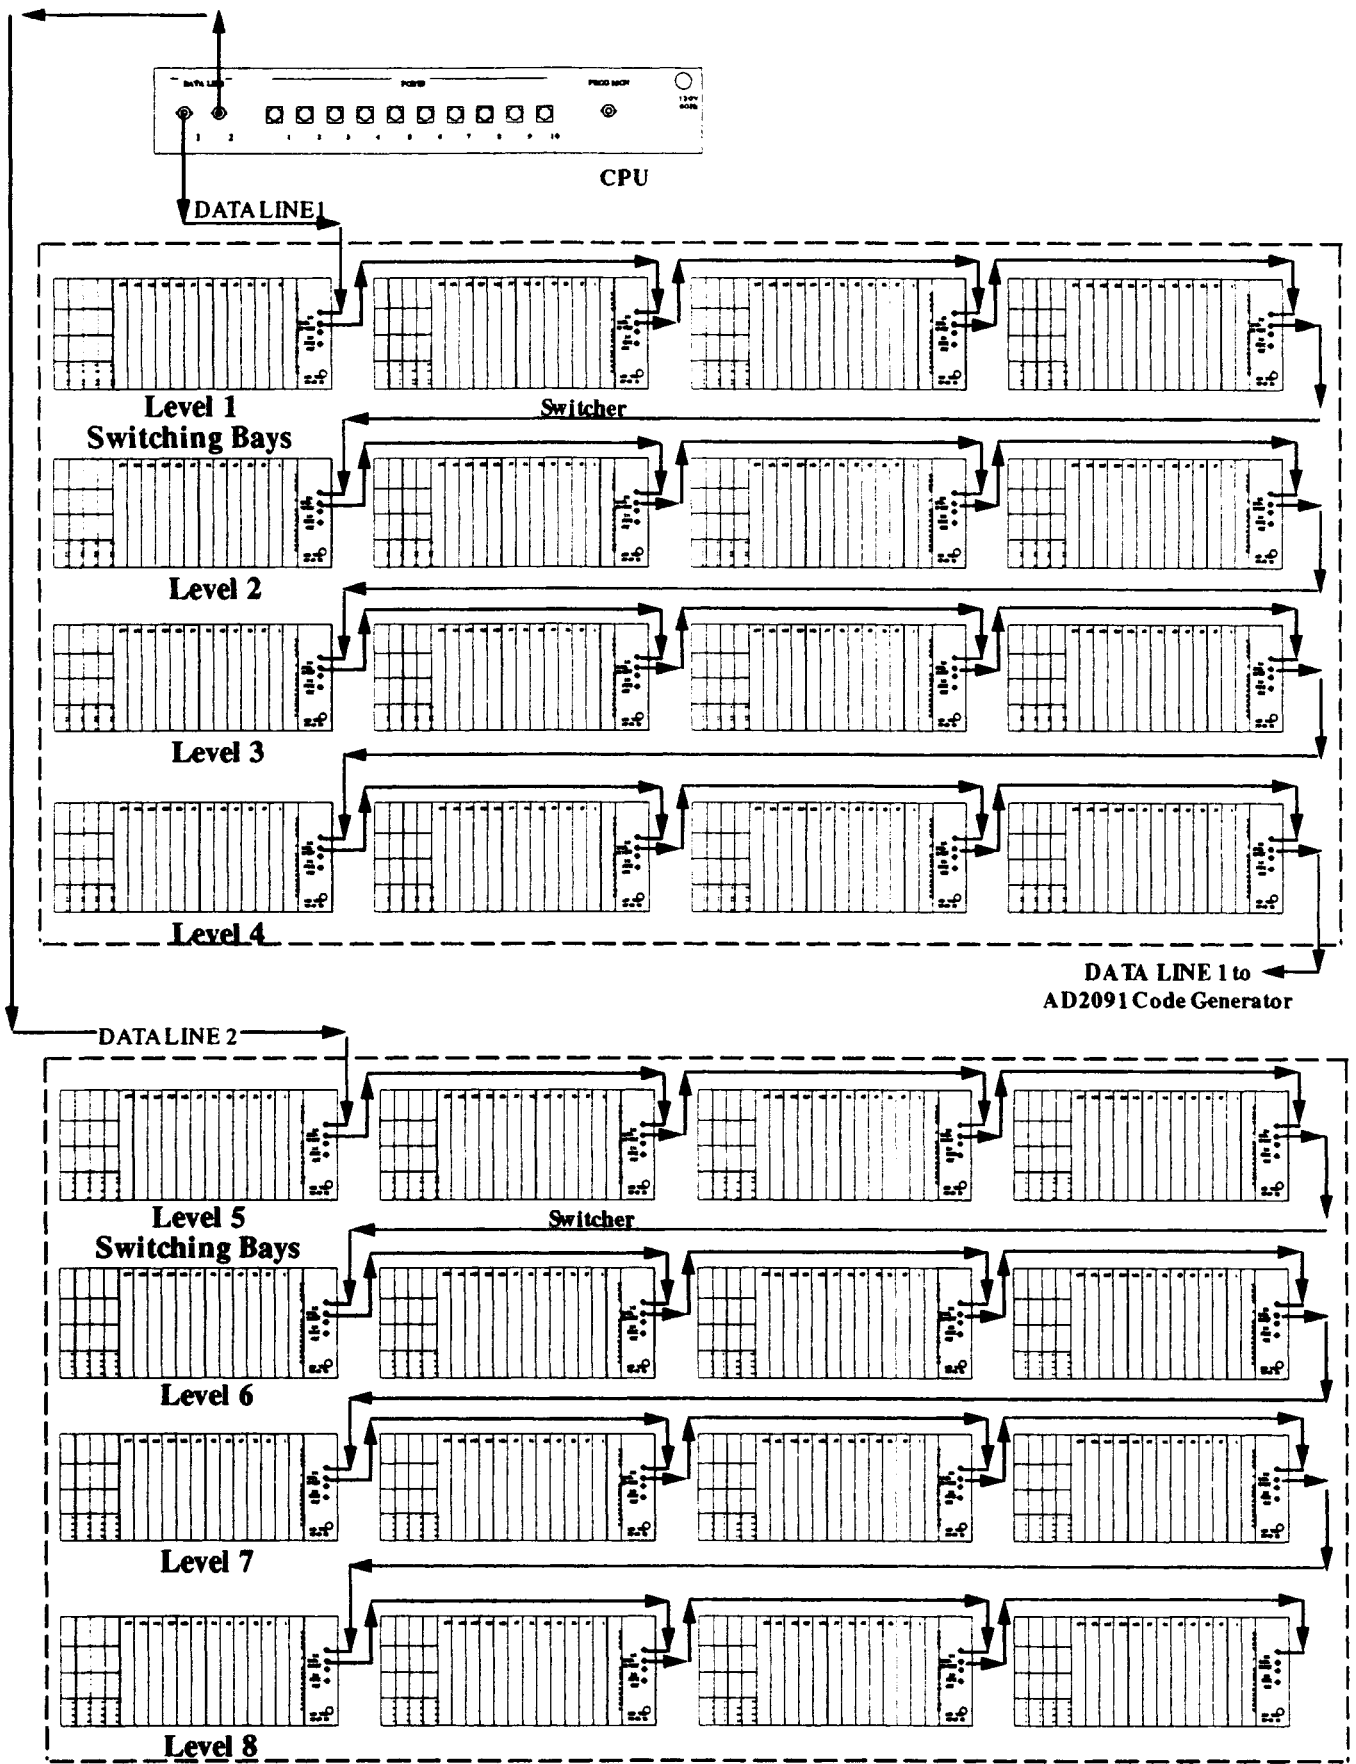

Figure 8 - CPU DATA LINE1 and DATA LINE2 -to- Switching Bay Connection
DATA LINE 1 routes the AD1024 CPU control signals to pan/tilt, lens, and auxiliary functions at suitably equipped sites, up to a maximum of 1024 sites. DATA LINE1 also routes the matrix switching information for Level 1 through 4 AD1024 Switching Bay video outputs 1 to 64 (see Figure 8).
DATA LINE1 and DATA LINE2 are daisy-chained through the input and output terminals of the AD1024 Switching Bays, depending on the system level configuration (see Figure 8).
1. Connect the AD1024 CPU DATA LINE1 **OUT** terminal to the DATA LINE **IN** terminal of the first AD1024 Switching Bay unit of Level 1 (see Figure 8).
1. Connect the AD1024 CPU DATA LINE2 **OUT** terminal to the DATA LINE **IN** terminal of the first AD1024 Switching Bay of Level 5 (see Figure 8).